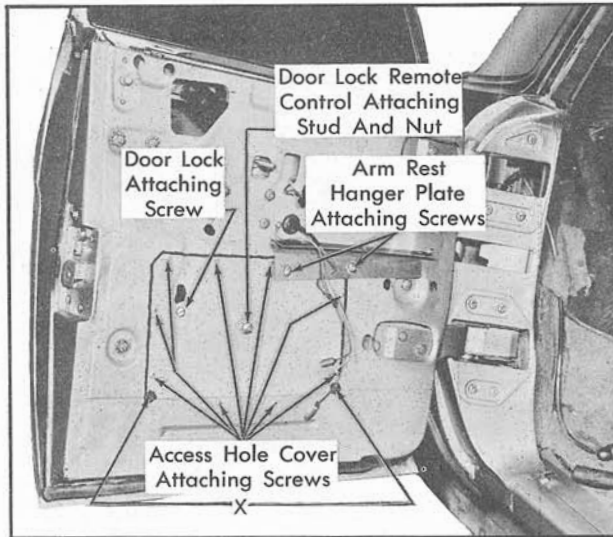

Fig. 17-15 Rear Door Access Hole Cover Removal
2. Remove arm rest hanger plate attaching screws, Fig. 17-15, and remove hanger plate.
5. Remove inner panel access hole cover attaching screws, Fig. 17-15. Carefully break cement bond around access hole cover and remove cover from door.
NOTE: After installation of cover, apply a coating of an approved weatherstrip cement along the top and side joints of cover to inner panel. Apply cement at the lower corners and offset area, indicated at "X" in Fig. 17-15. Special attention should be given this area.